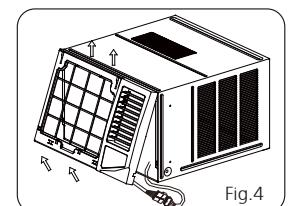

Fig.4
2. Disconnect the coupler plugs and make sure not to interfere with the temperature sensor cable. Hold the left bottom side of the frame, lift it up to unlatch the lower side, remove it toward you (See Fig. 4).